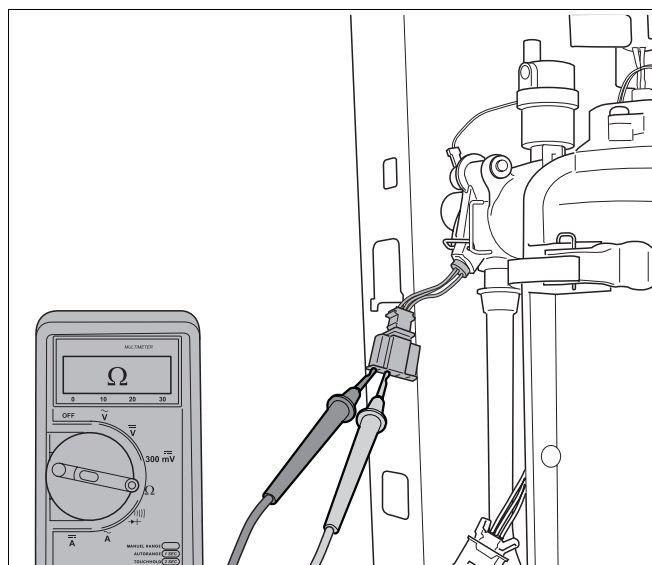

fig. 75 Measure resistance of bi-sensor
- Measure the resistance of both parts of the bi-sensor (see fig. 75).